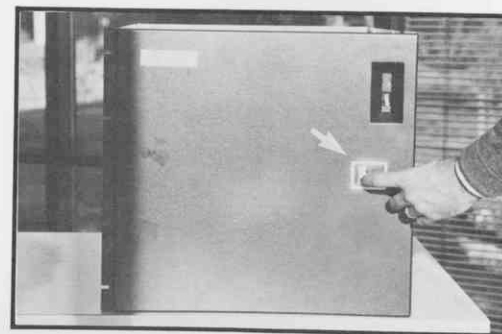

Figure 74 Model 150 Workstation
- 6.4 Unlatch and open the front door as shown in Figure 74.